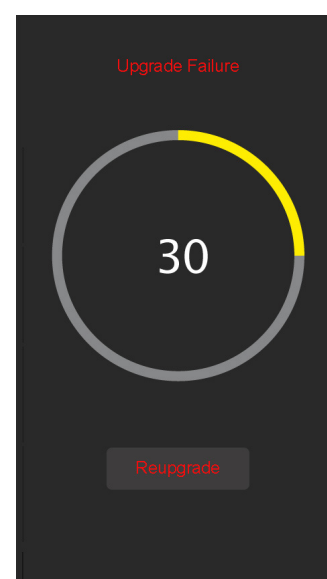

Fig. 6.4
If upgrade failure, device interface as shown as Fig. 6.4, please remove the SD card then insert again, click "Reupgrade" to continue upgrading.
- 3 - During updating process, the power cannot be cut off, the power failure may cause missing UI source files. If the device is voltage failure, restart the device then the it will note upgrade failure, as shown as Fig. 6.4, please remove the SD card then insert again, click "Reupgrade" to continue upgrading.